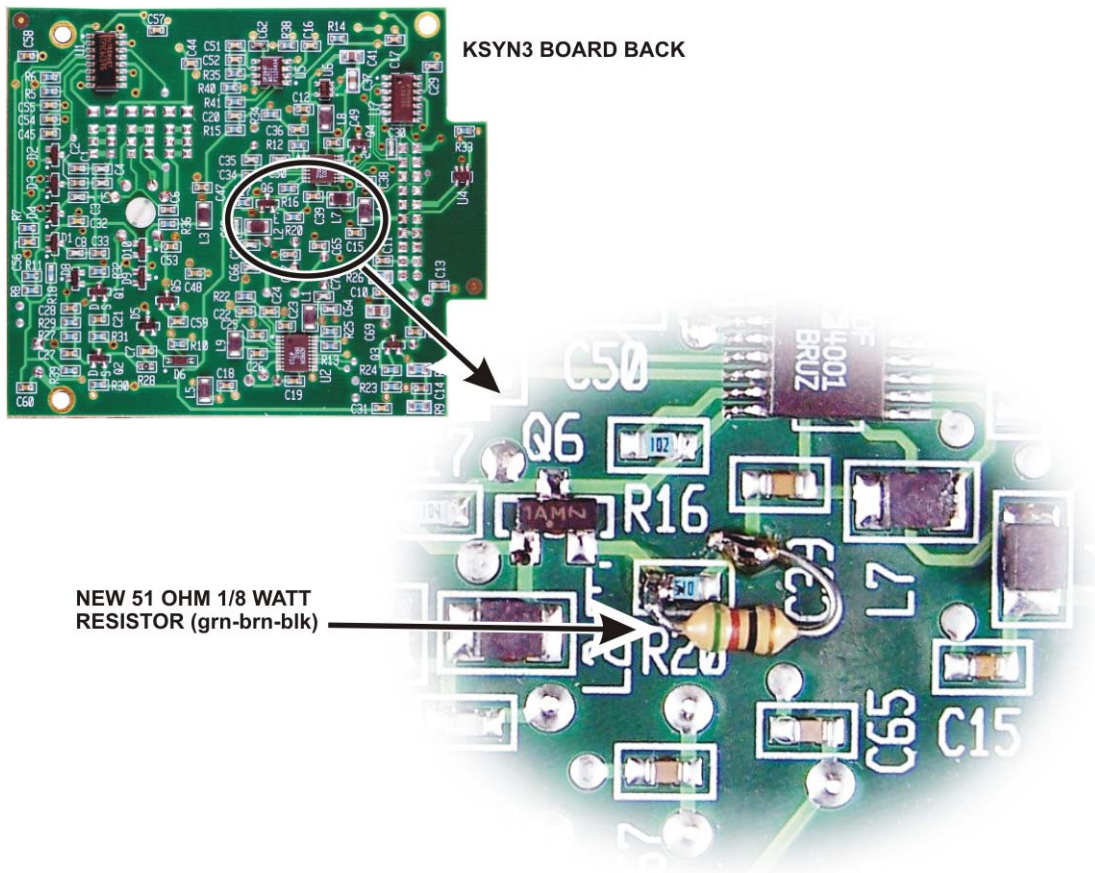

Figure 3. New Resistor Installed on KSYN3 Board.
□ Use your DMM to check the resistance of R20. R20 is shown in Figure 3 below. If the resistance is close to 25 ohms your synthesizer has already been modified. Do not install the 51 ohm resistor. If the resistance is about 50 ohms, install the 51 ohm 1/8 watt resistor (grn-brn-blk) across it as shown in the figure. Note that: